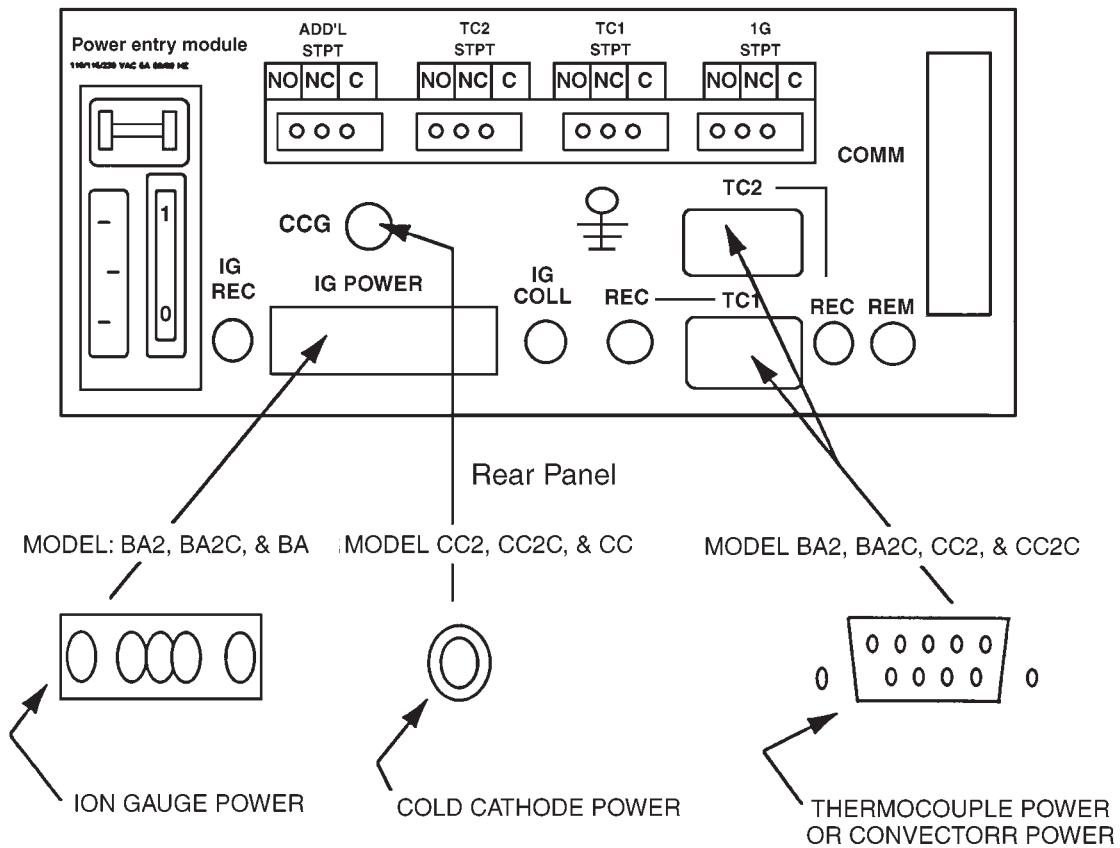
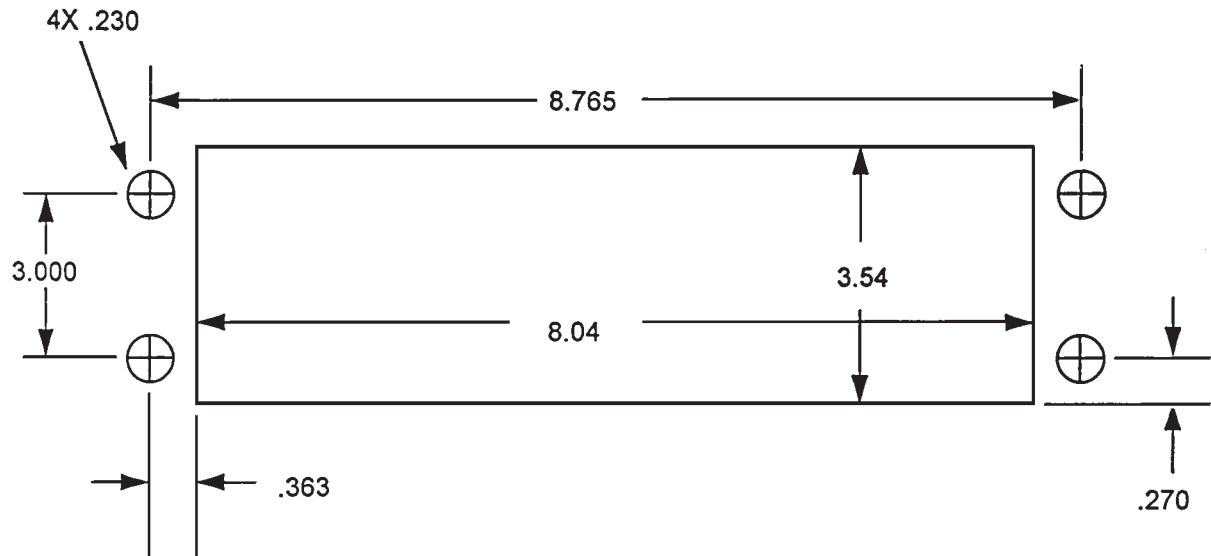

Figure 2-2. Rear Panel Connections
Figure 2-3. Panel Cutout Dimensions
4. Mount the unit using the desired rack-mounting kit, then attach the appropriate external gauge and system cables. Refer to Figure 2-2 for rear panel connections and Figure 2-3 for mounting dimensions.